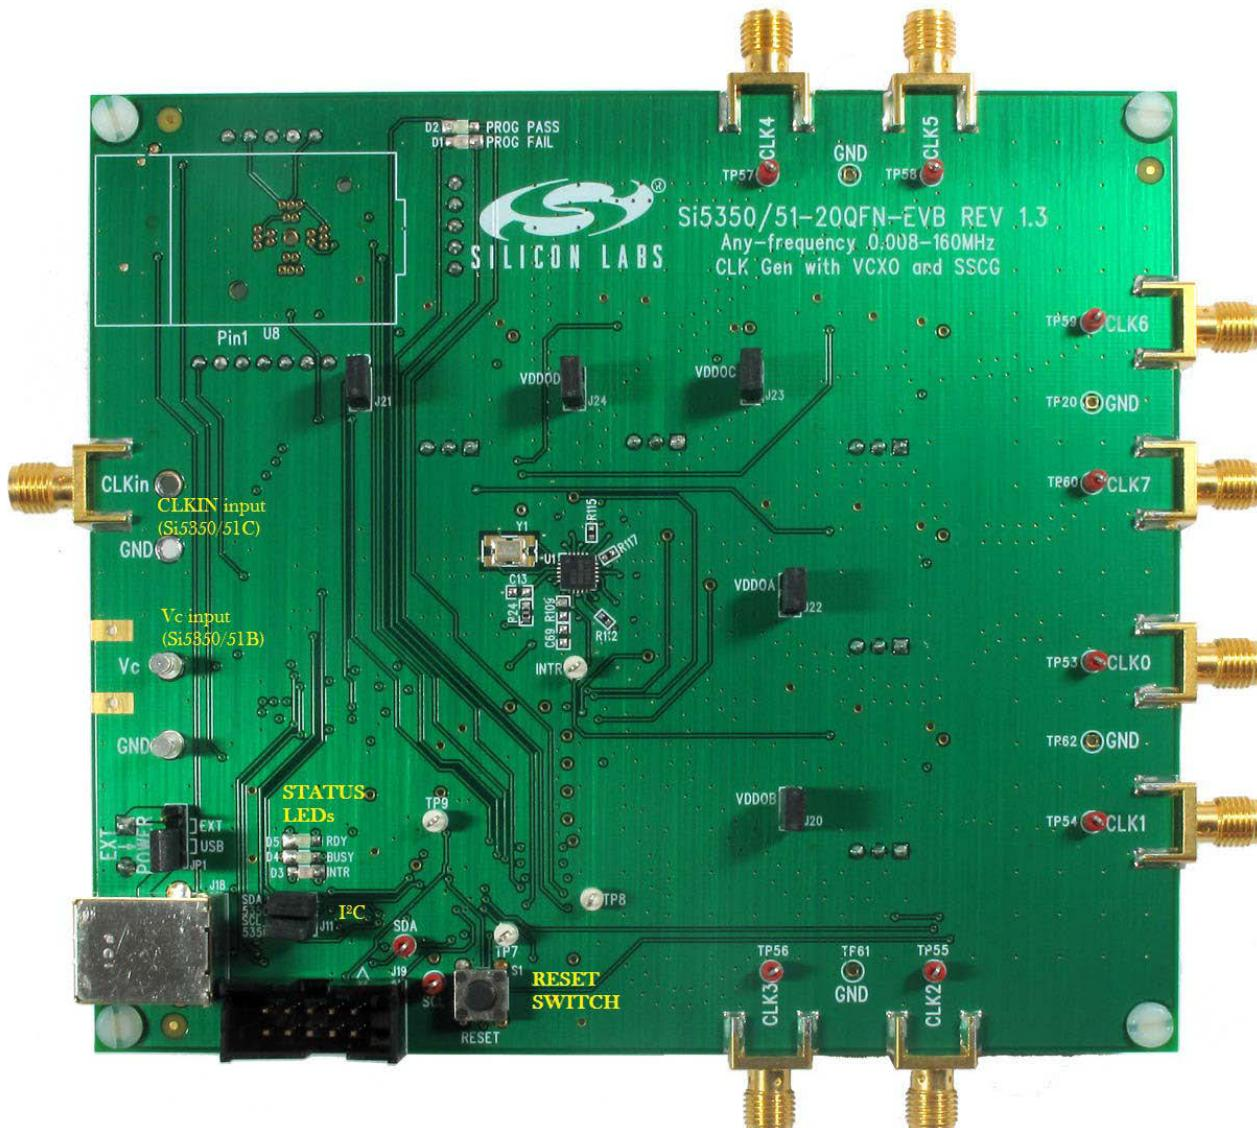

Figure 1. EVB Features (Front)
Figures 1 and 2 highlight the main features of the EVB. The onboard MCU is responsible for programming the Si535x timing IC, measuring the device's current consumption reported in the ClockBuilder™ Desktop, managing power, and controlling status LEDs. VDD and VDDO jumpers allow the option of choosing between 1.8 (VDDO only), 2.5, and 3.3 V or powering the device with external supplies (see Section "2. Jumpers" for details). I²C jumpers allow the Si535x to be disconnected from the I²C bus, allowing external control from another I²C master.
- **EXT POWER**—Allows user to select between 5 V USB supply and 5 V external supply on J17. See Figure 1 for jumper locations.